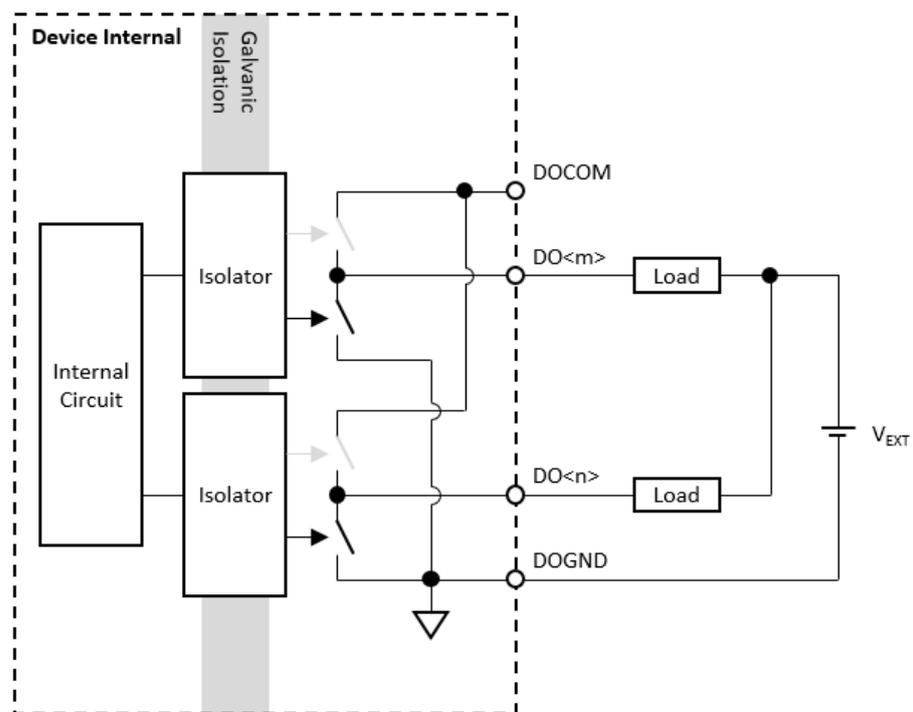

Figure 2.4 Sink (NPN) type digital output signal connection.
For a sink type digital output, the current which flows through the load is sunk by the digital output (DO) terminal, and returns to the external source through the digital output ground (DOGND) terminal. This is shown in Figure 2.4.